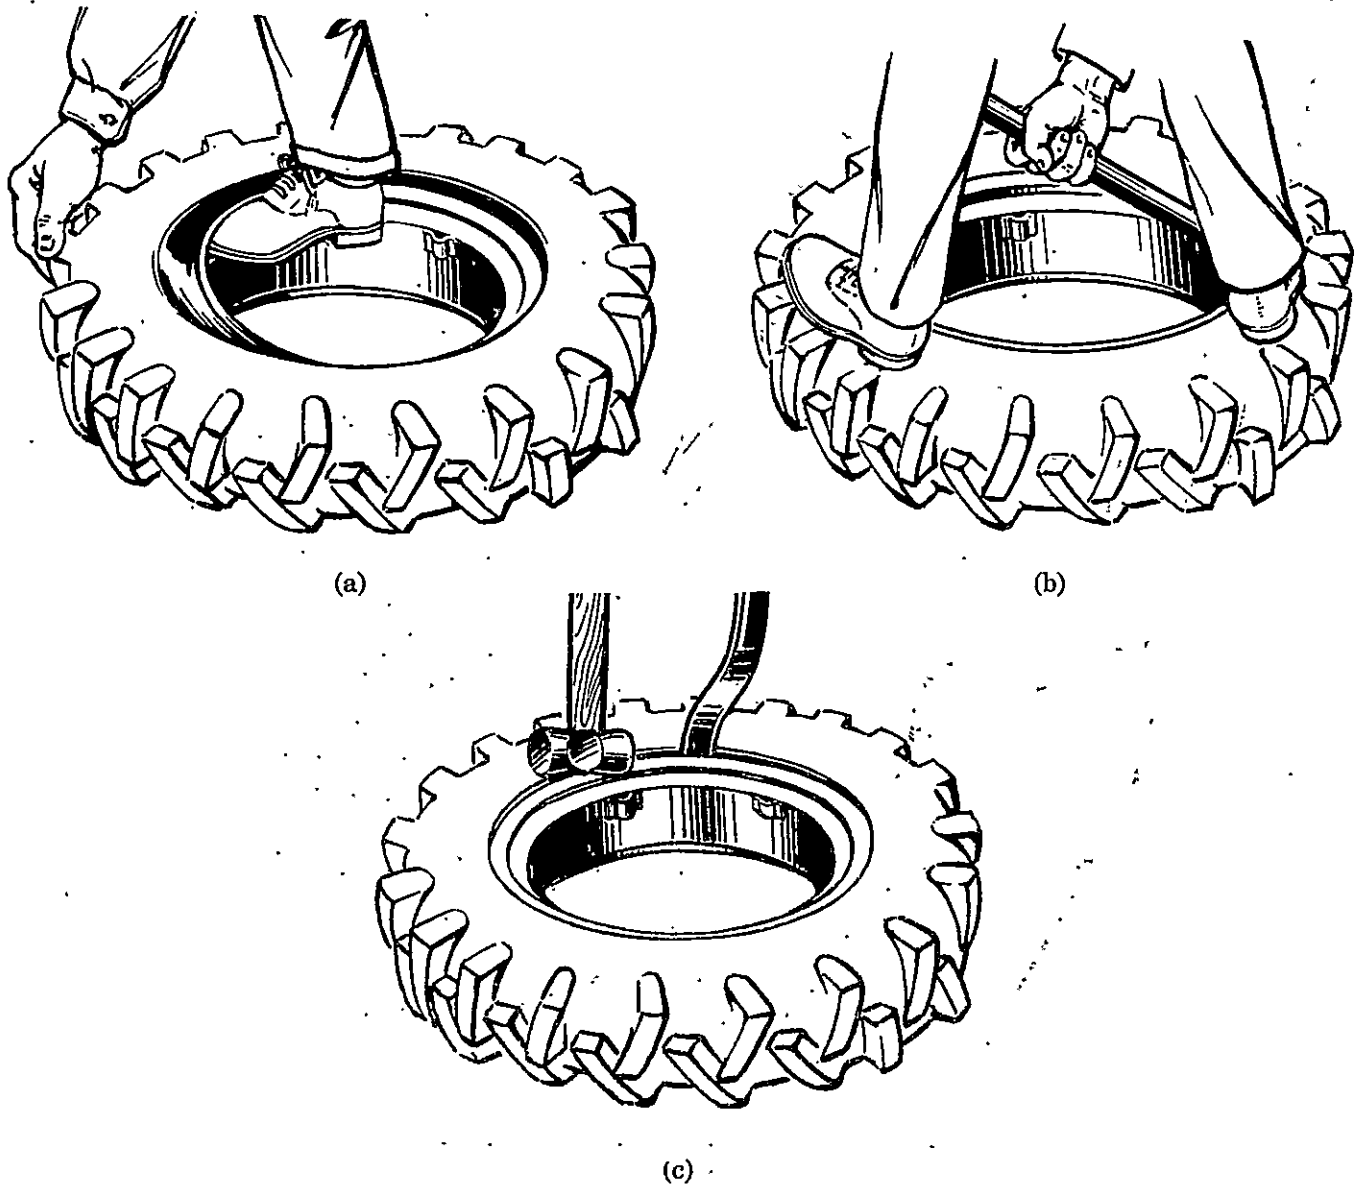

Fig. 4-25
- c. Stand up the rim and the tyre and push the tyre to the one side of the rim. Then put the tyre tube into the tyre. (It is advisable to pass firstly the valve through the hole in the rim and screw on the valve cap and lock up with wire.) In consideration of the heavy weight of the rear tyre, it is advisable to put three woodblocks or bricks of 10mm thick evenly under the tyre to raise it up and put the tube in the tyre as shown in Fig. 4-25
- d. Push the rim close to the half part of the tyre and stand on the other half part of the tyre to press the tyre into the middle recess of the rim with feet. Then insert a crowbar into the rim and with it pry the tyre bead into the rim as shown in Fig. 4-25